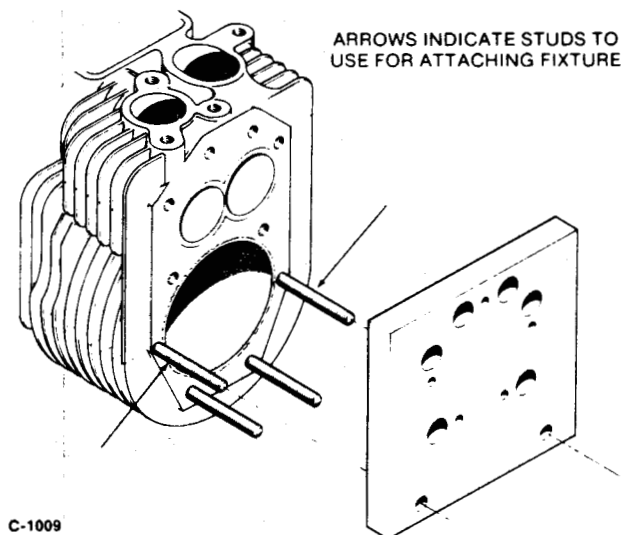

FIGURE 32. REPAIR FIXTURE
6. Fit the special repair fixture (Onan Tool #420-0398) to the surface of the block. Use the studs shown in Figure 32 and two cylinder head nuts to secure fixture to head of block.